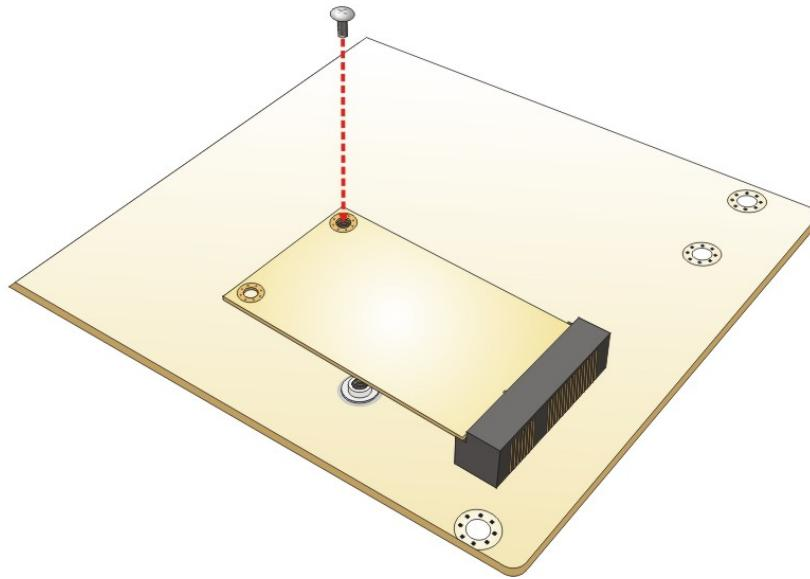

Figure 4-9: Securing the Full-size PCIe Mini Card
Step 4: Secure the full-size PCIe Mini card. Secure the full-size PCIe Mini card with the retention screw previously removed (Figure 4-9).